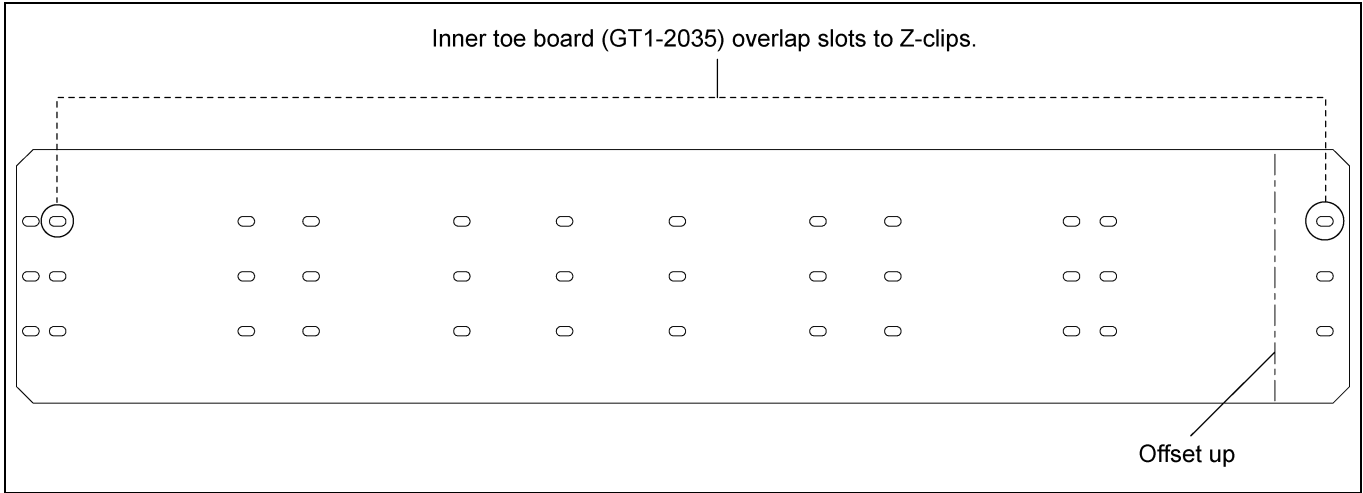

**Figure 6K** Inner Toe Board Installation for Offset and Roof Hatch Catwalks
1. Install the inner toe board (GT1-2035) to the Z-clips (GT1-2036). (See Figure 6K.)
2. All the toe boards should be installed between the Z-clips using 3/8"-16 x 1" JS grade 8 or grade 8.2 bolts (S-7485) and 3/8"-16 ZN grade 5 nuts (S-968). (See Figure 6K.)